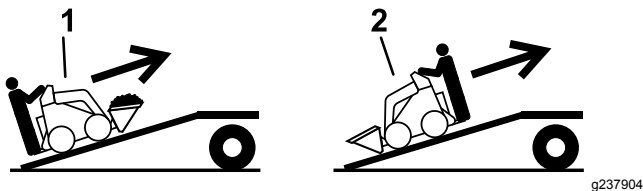

Figure 12
5. Load the machine onto the trailer with the heavy end up the ramp, carrying loads low (Figure 12).